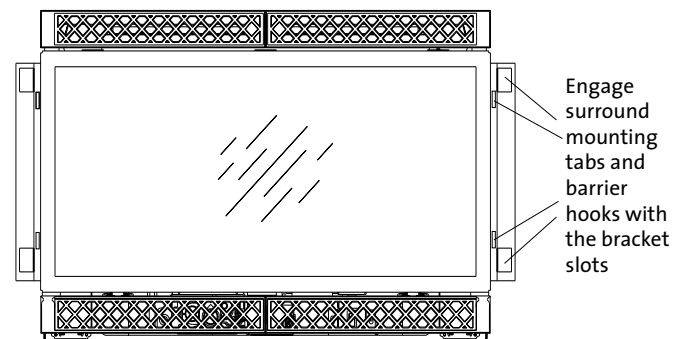

Figure 42. Surround and Safety Barrier engagement with firebox.
5. Stand the assembled surround up and gently lift to the unit. Align the mounting holes on the sides of the insert with the mounting tabs on the surround. See fig. 42.
9. **Install the Safety Screen Barrier.** Simply hang the barrier assembly by engaging its hooked brackets with the slots used by the surround panels. See figs. 42 and 43.